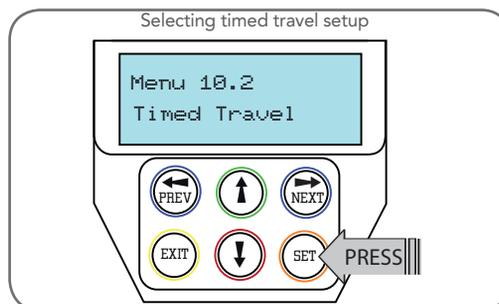

Fig H.5
- Press SET again to start the the setup (**Fig. H.5**)